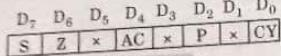

Fig. 2.3.2.
- b. **Flag register :** It is an 8-bit register, in which five of the bits carry significant information in the form of flags : S (Sign flag), Z (Zero flag), AC (Auxiliary carry flag), P (Parity flag) and CY (Carry flag) as shown in Fig. 2.3.2.